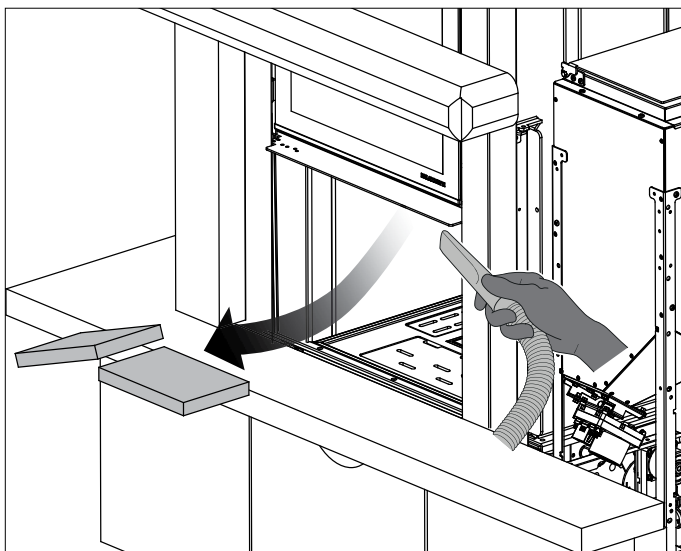

fig. 6.1
- Open the door of the stove and extract from their seating the two upper magnofix panels (fig. 6.1).